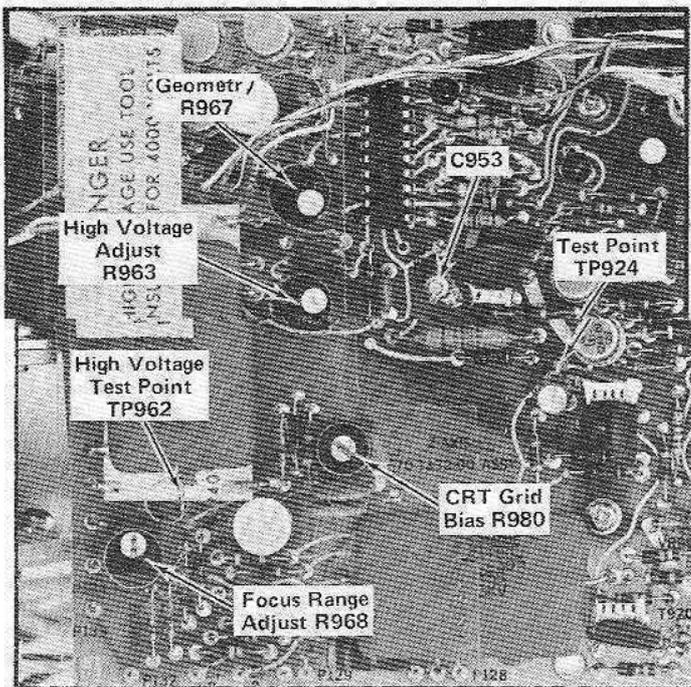

Fig. 5-5 CRT unit circuit board and adjustment locations
a. Connect the DC Voltmeter between the -3940 volt test point TP962 (see Fig. 5-5) and ground.
c. ADJUST—High Voltage Adjust R963 (see Fig. 5-5) for a meter reading of -3940 volts, ± 78.8 volts.
a. Attach a 10X probe to the test oscilloscope and connect the tip of the probe to test point TP924 on the Z Axis circuit board. See Fig. 5-5.
g. ADJUST—CRT Grid Bias adjustment R980 (see Fig. 5-5) so the spot on the CRT just disappears.
k. ADJUST—C953 (see Fig. 5-5) for optimum waveform risetime and flat top.
d. ADJUST—Focus Range adjust R968 (see Fig. 5-5) and ASTIG adjust R85 (located on rear panel) for optimum focus of both the horizontal and vertical portions of the display.